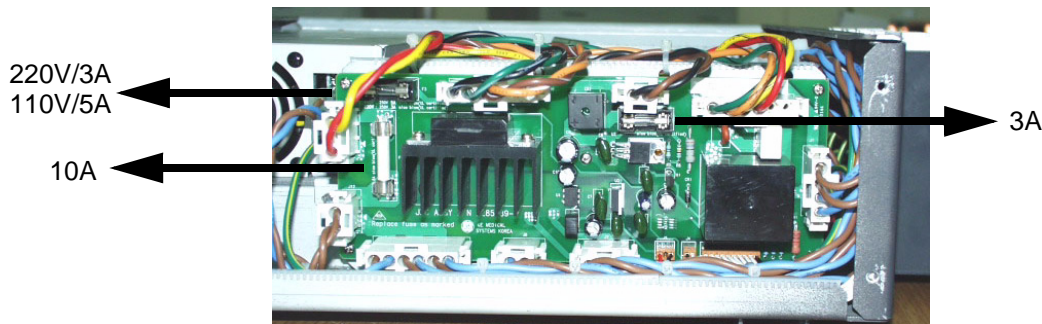

Figure 8-196 Removing the Fuse
- 1.) Unscrew four (4) screws (1-4) to remove Left side cover of AC Power assy.
- 2.) Remove the Fuses. Refer to Figure 8-196.